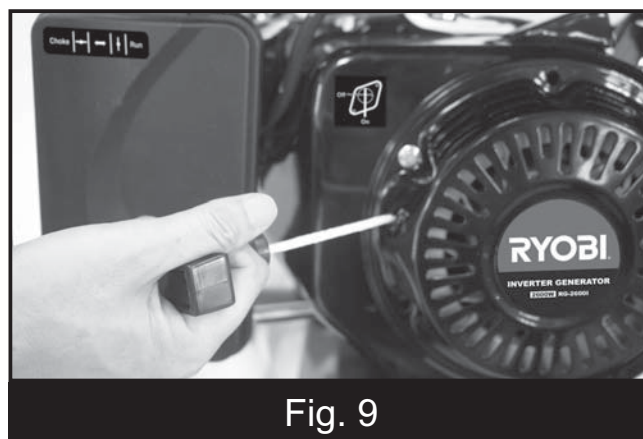

Fig. 9
4. Hold down the generator firmly with one hand on the frame. With the other hand grip the recoil starter cord handle (Fig.9) and pull and return the rope gently 3-4 times to let the engine breathe in the fuel mixture from the carburetor. Pull the cord sharply. Continue this procedure until the engine starts.